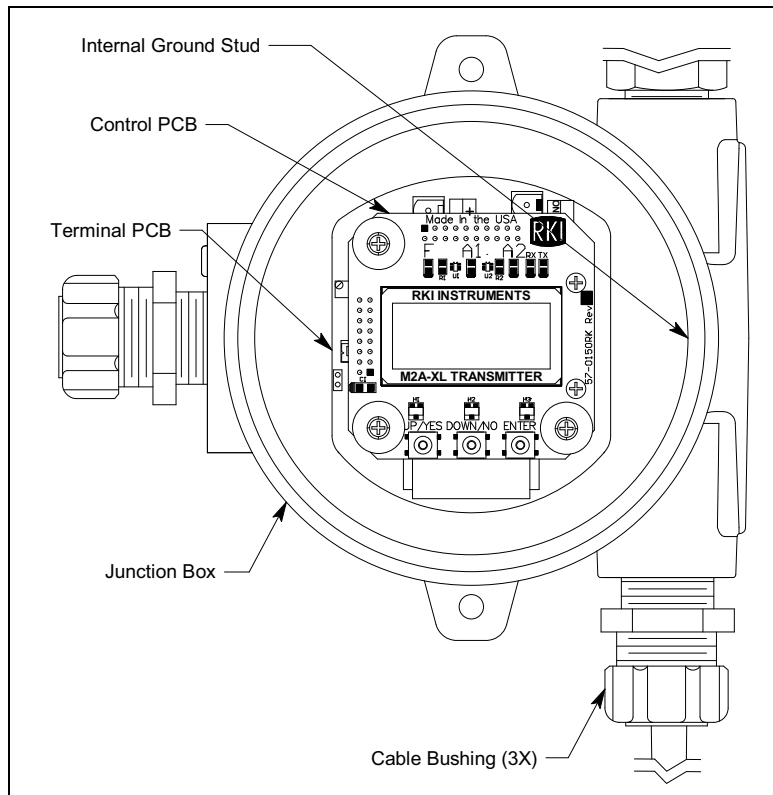

Figure 4: M2A-XL Rig Monitor Internal Components
6. Locate the relay terminal strips. See Figure 4 to assist you in locating the relay terminal strips.